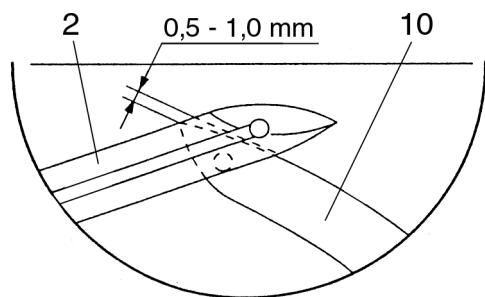

Fig. 26
When the two loopers overlap, as shown in figure 26, the clearance between the point of the upper looper 10 and the head of the lower looper 2 must be between 0.5 and 1.0 mm.
- Rotate the drive eccentric until the clearance between the point of the upper looper 10 and the head of the lower looper 2 is between 0.5 and 1.0 mm (figure 26).